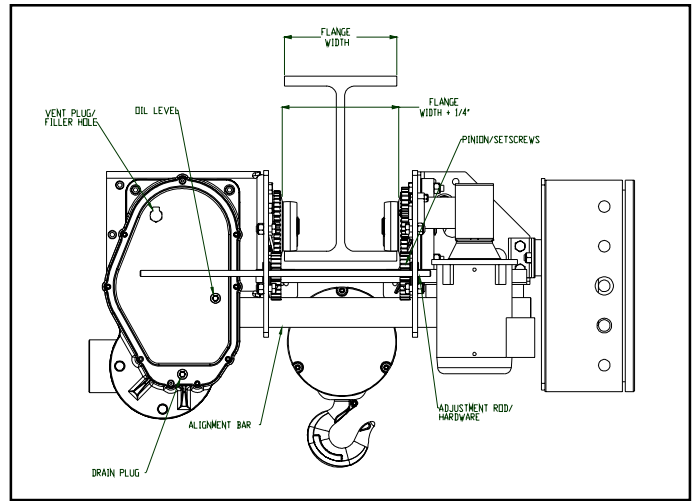

Figure 2-1. Trolley Wheel Spacing
OPEN-END BEAM: If the trolley can be installed directly from the end of the supporting beam, adjust the spacing between the trolley wheel flanges to be 3/16"-1/4" greater than the exact width of the beam flange (See Figure 2-1). Before adjusting the width of the trolley frame, make sure to loosen the pinion set screws on the keyed cross shaft nearest the traverse drive reducer. Do not lose the keys for the pinion during adjustment. Also, the electrical conduit/cable must not be constrained when attempting to adjust the trolley sides, in or out. The trolley width is adjusted by loosening the jam nuts on the traverse drive side of the threaded rods at each end of the hoist. If necessary, lubricate the frame alignment bars with penetrating oil before attempting to adjust trolley width. The trolley side may then be pushed or driven into position by turning the adjusting nuts on the threaded rods. Adjust nuts on each side of the hoist simultaneously, to avoid binding. After adjusting the trolley to the proper width, tighten all adjusting nuts and setscrews, and re-secure the electrical conduit/cable. Verify that the geared wheels mesh properly with the traverse drive pinions. Using proper equipment, carefully lift the hoist and install on the end of the beam. Lubricate the wheel gear and all pinions (WG, Section IV, Paragraph 4-5).
CLOSE-END BEAM: For trolleys which are to be mounted along the span of a beam not having open ends, the trolley must be adjusted in the same manner as described above to a width that allows clearance between the axle ends and the beam flange. Using proper lifting equipment, the trolley and hoist must then be lifted to the beam where it is to be installed. Once in position, adjust the spacing between the trolley wheel flanges to be 3/16"-1/4" greater than the exact width of the beam flange (See Figure 2-1). After tightening all adjusting bolts, set screws, and all electrical conduit/cable clamps, carefully set the trolley on the beam. Lubricate the wheel gear and all pinions (WG, Section IV, Paragraph 4-5).
- a) Check Oil Level. (Figure 2-1) The gearcase has been filled with oil to the proper level. However, this should be rechecked before operating the hoist.
Check oil level by removing the plug indicated in Figure 2-1. When properly filled, oil should be level with the bottom of the tapped hole. Fill to this level with oil as specified in Paragraph 4-2.e.